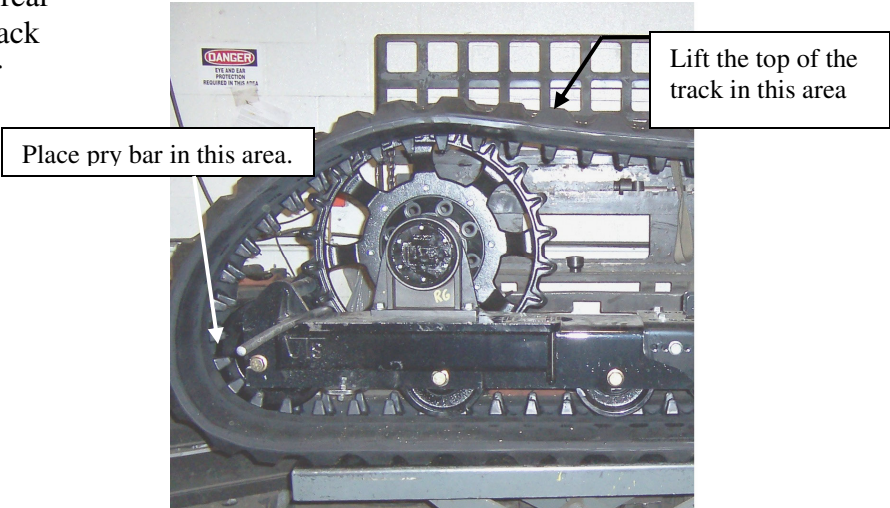

Fig. 3
8. Move to the rear of the VTS and place your hoist strap or chain in front of the sprocket, lift up the track with the hoist. **(Fig. 3)**
10. Once the track is off the sprocket place a pry bar between the rear idler and the inside of the track and pry outward so the idler comes out of the Track Idler Guides. **(Fig. 3)**